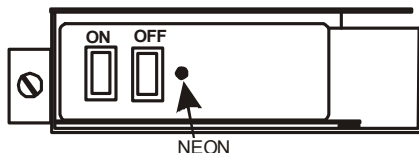

Figure 3 – Duo Power Fan Control (Manual)
2. Depress and release the fan's ON button, as shown in **Figure 3** - you will hear the fan start at its maximum speed and the indicating neon will be illuminated. After a few seconds the indicating neon will be extinguished and the fan will be heard to change to its lower speed, it may also be possible to hear the solenoid valve open. Once this process is completed, it will be possible to light the fire.